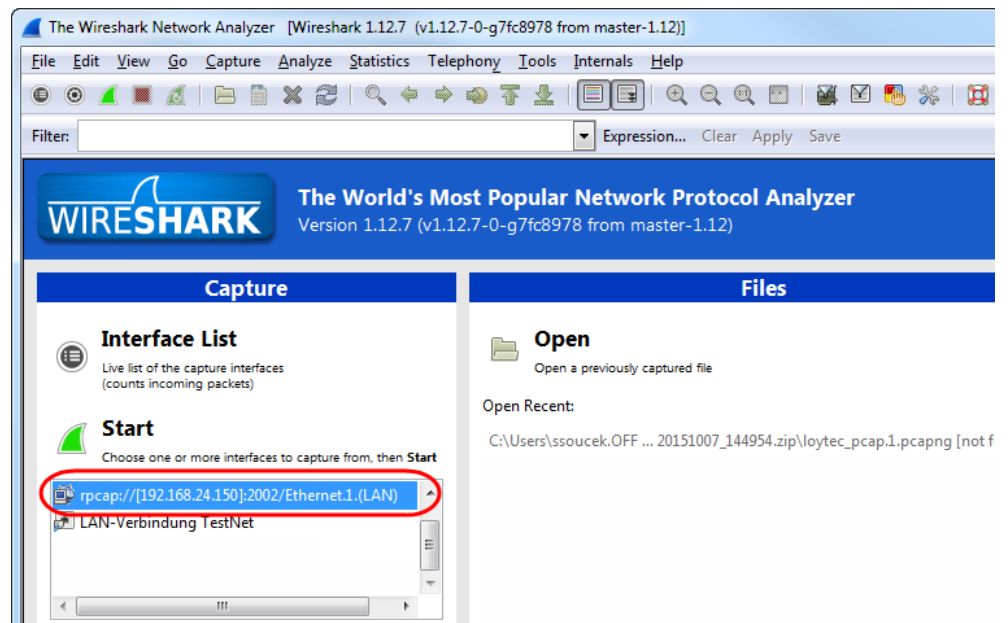

Figure 166: Start Remote Capture in Wireshark.
2. Click the **Start** button as shown in Figure 166.